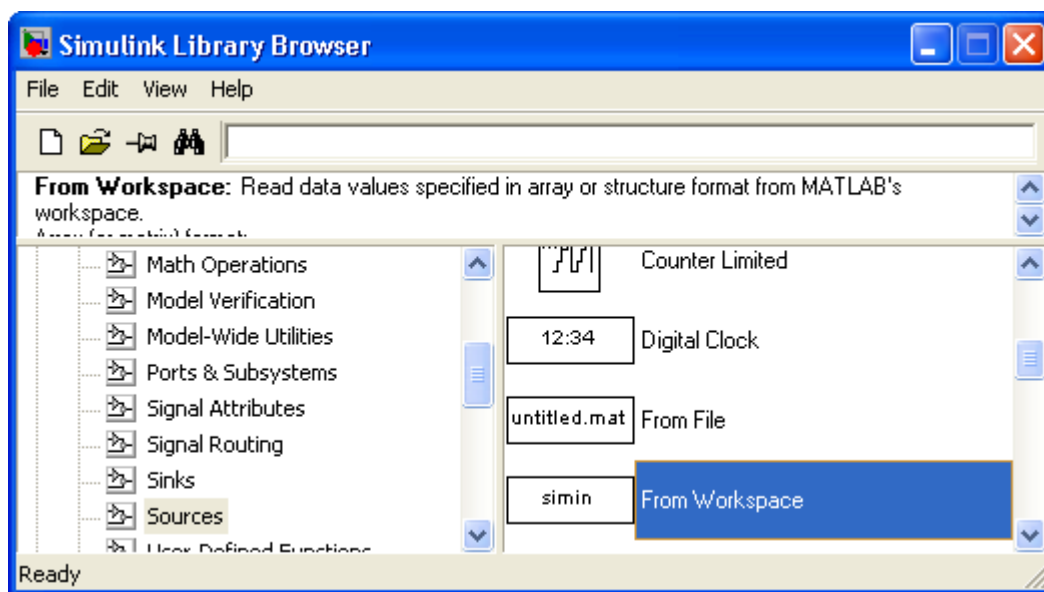

Figure 9: Sources Sub-Library
2. Open the Sources sub-library (within the Simulink library) by clicking on the name. Copy the From Workspace item, shown in Figure 9, onto the untitled design window by selecting